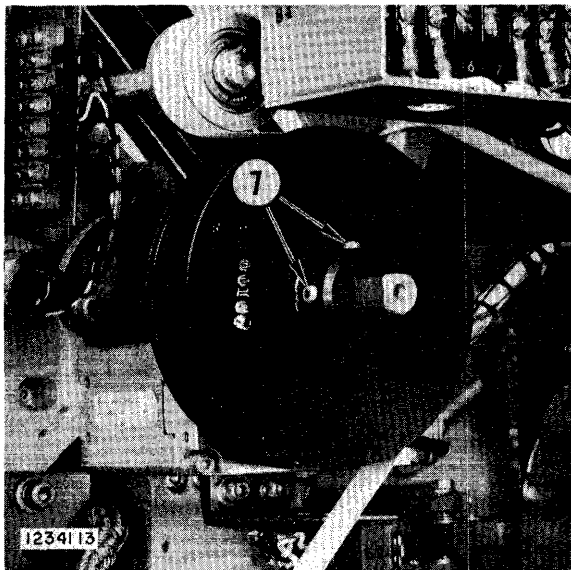

Figure 5-17a.
5-54. CAPSTAN DRIVE BELT REPLACEMENT AND ALIGNMENT. See Figures 5-17a & b where the following steps are referenced.
- Step 7: Use an Allen wrench to loosen set screws on either or both capstan drive pulleys and align with belt roller assembly pulley (#7, Figure 5-17a).